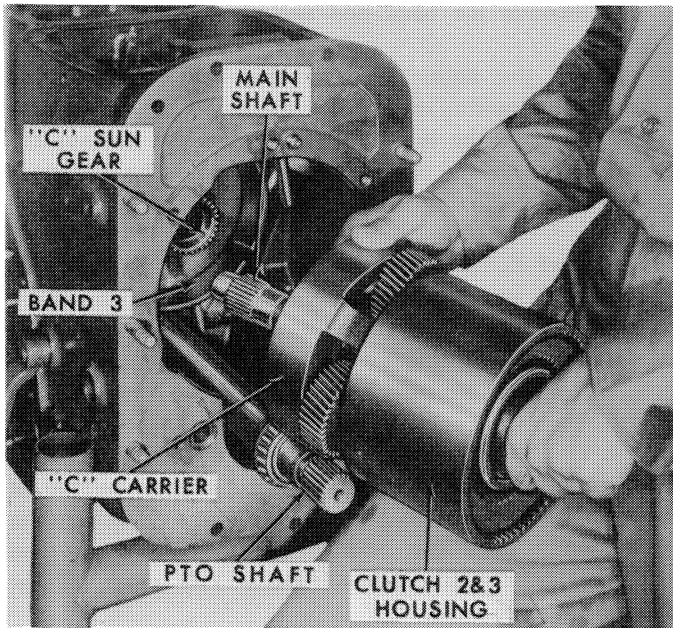

Figure 45
6. Loosen the No. 3 band adjusting screw and remove the clutch 2 and 3 housing, and "C" carrier and the mainshaft in one assembly, as shown in Figure 45.